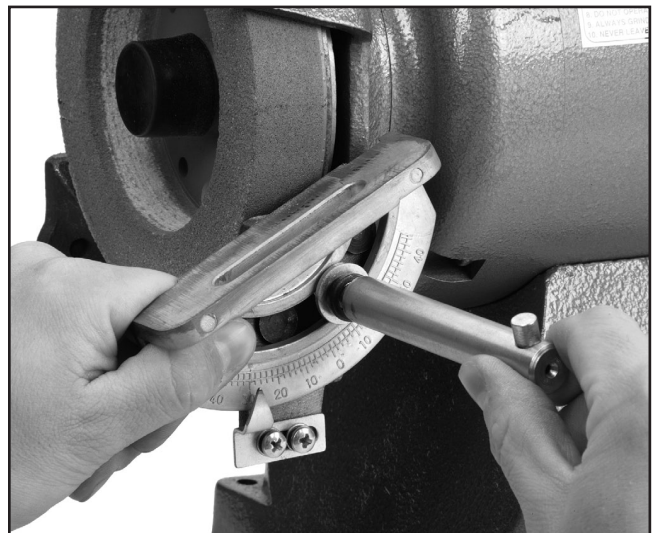

Figure 6. Attaching angle gauge.
1. Attach an angle gauges to the grinder body with a 10mm washer, 10mm lock washer and lock handle as shown in **Figure 6**.